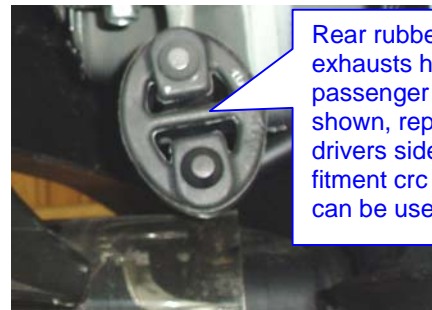

Fig 4
- Lower the rear mufflers from the rear most rubber hangers to aid fitment of the towbar see figure 4.